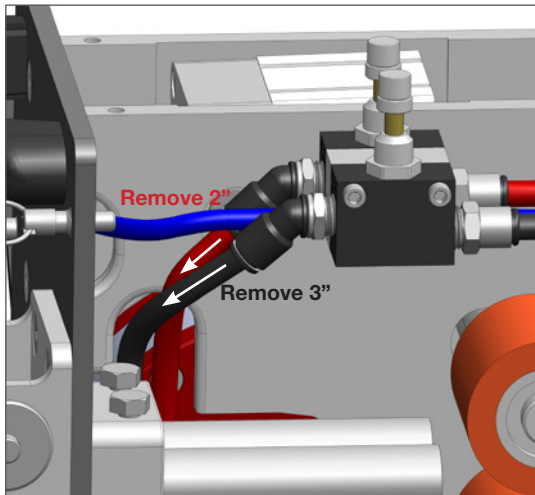
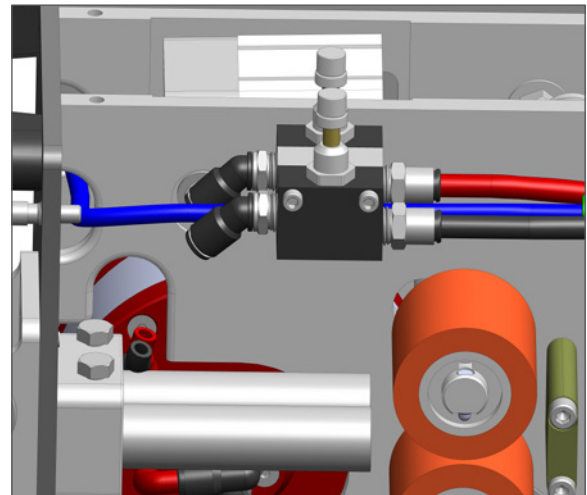
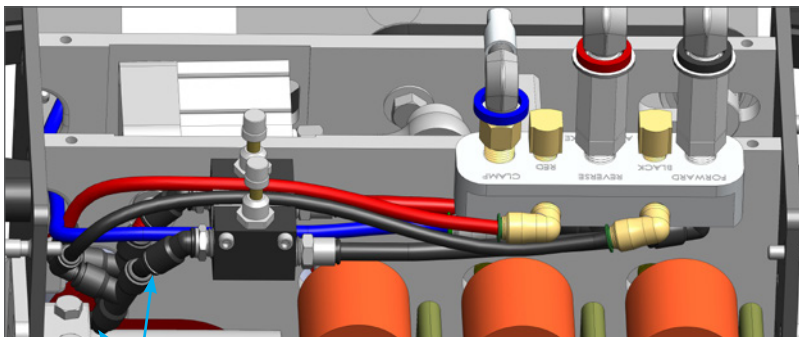

FIGURE 1
FIGURE 2
FIGURE 3
2. Unplug the three tubes from the bottom of the manifold **(FIGURE 2)** and remove the 2 hex head bolts using a 7/16 socket driver or box wrench. Remove and retain the top 3 JIC fitting assemblies, and disconnect the 3 air tubes from the bottom of the Air Manifold. Discard the old manifold. **(FIGURE 3)**
1. Install the 3 JIC fitting assemblies to the new AutoStroke Air Manifold. Use pipe dope or tape on the NPT tapered threads. Re-attach the air manifold using the 2 hex head bolts that were reserved from the original manifold assembly. **(FIGURE 1)**
2. Reconnect the 3 air tubes (blue, red, and black) to the push-to-connect fittings on the bottom of the air manifold. **(FIGURE 2)**
1. Disconnect the red and black air tubes from the fittings on the left side of the flow controls. **(FIGURE 1)** Cut exactly 2 inches off the end of the red tube and 3 inches off the black tube. **(FIGURE 2)**
2. Connect the red and black tubes with the T-fittings from the manifold to the fittings on the left side of the flow controls. Connect the other end of the T-fittings to the end of the cut tubing. The tubes from the manifold assembly should lie between the flow control knobs. **(FIGURE 3)**
3. Connect the air hose from the FRL to the back of the Control Assembly. **(Figure 3)**